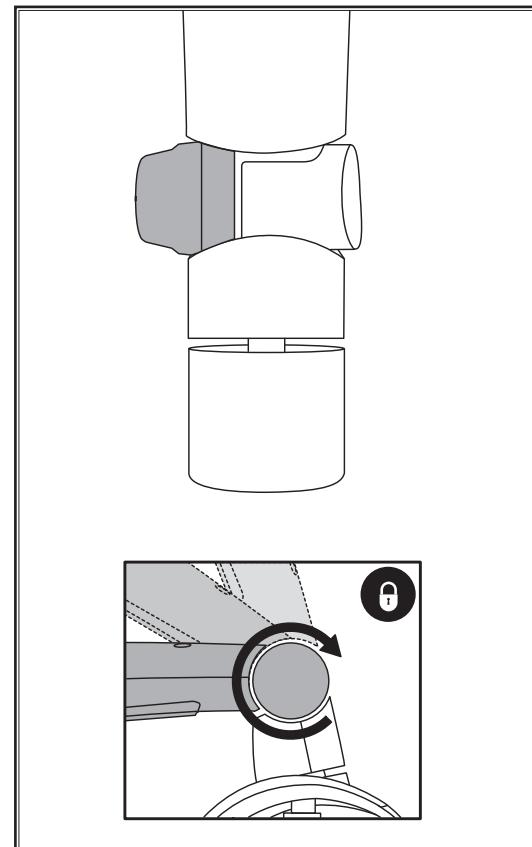

Figure 14. Tiller Adjustment Knob
TILLER ANGLE ADJUSTMENT (see figure 14)
2. With the seat and batteries removed (see Disassembly Procedures on previous page), lower the tiller and tighten the tiller adjustment knob. See **figure 14 or 20**.